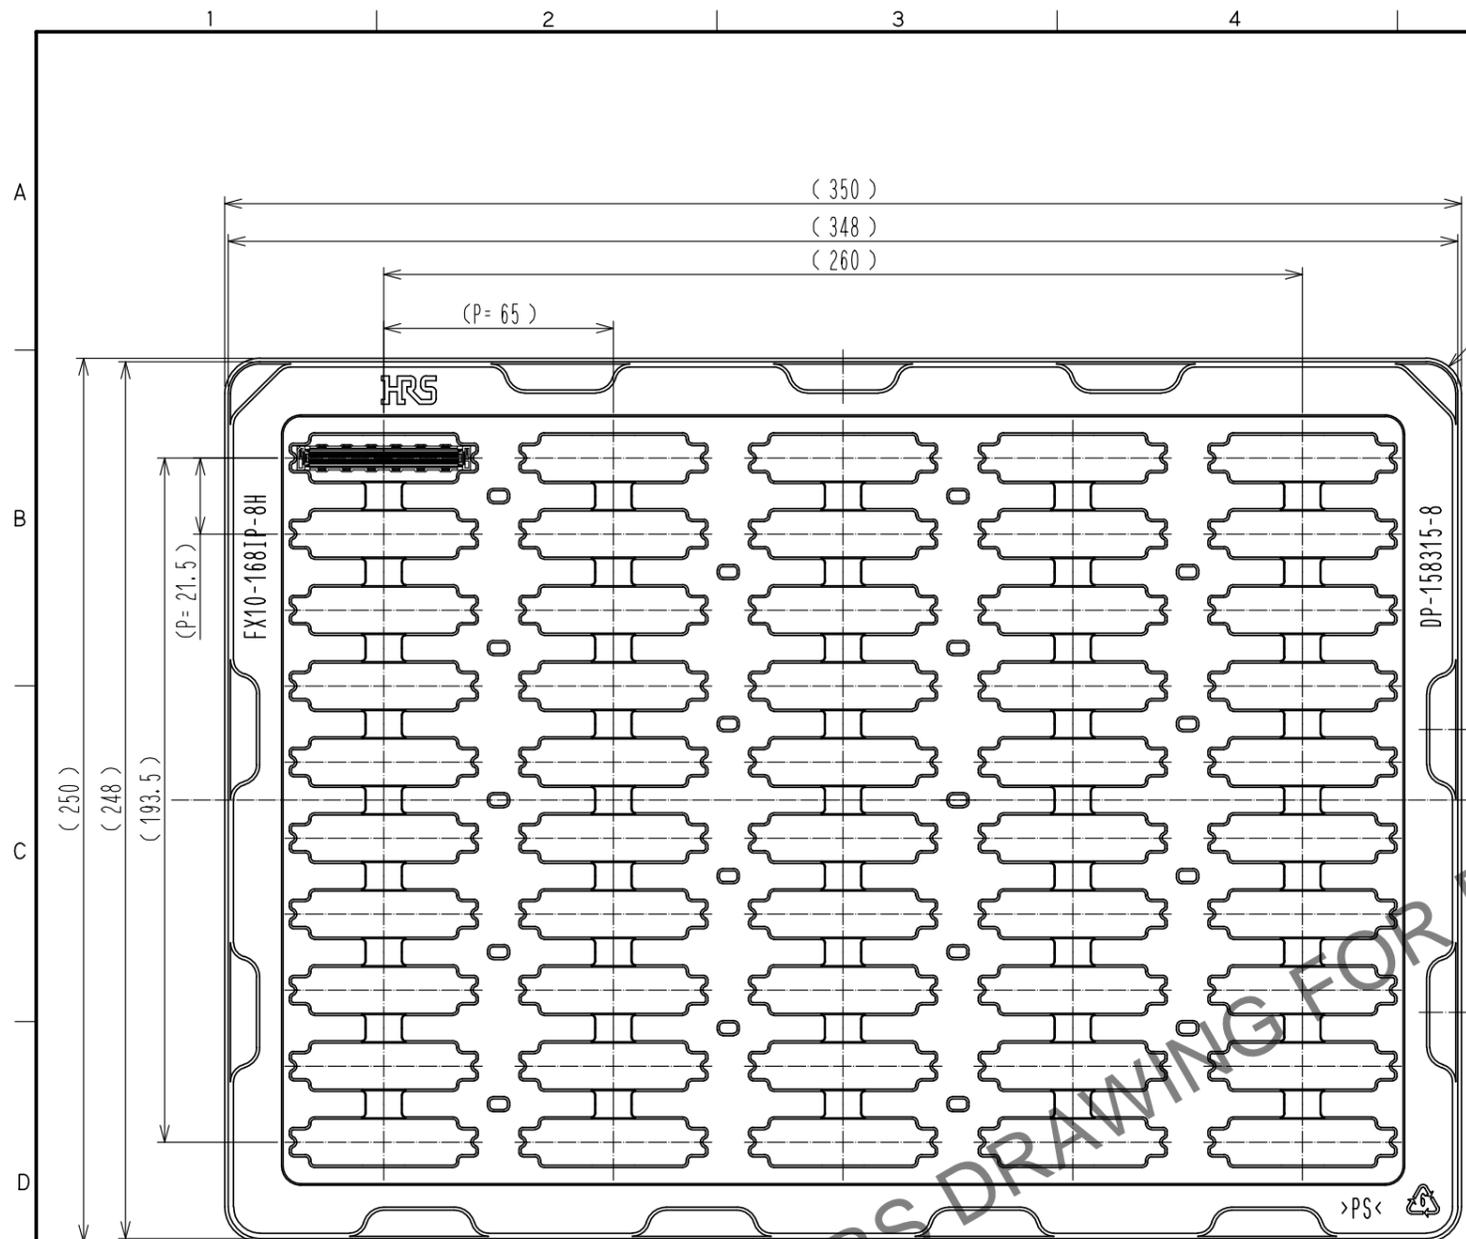

Fig.3 Drawing for packing (1:2) 6
- (1) The header connectors are decided by board distance (stacking height). Connector combination is shown in Table 1.
- (2) Fixed side (Black side) of interposer should be mated with header mounted on board α. Mating side (Gray side) should be mated with header mounted on board β.
- (3) Spacers are required to support the PWB's and protect the SMT solder joints. Recommended spacer height is shown in Table 1.
- (4) Pin configuration is shown in Table 2. This product consists of 168 Single-ended lines.
- (5) Lot No. shall be marked on the indicated position.
- (6) 50pcs of this product are packed in soft tray. See Fig.3 for details.